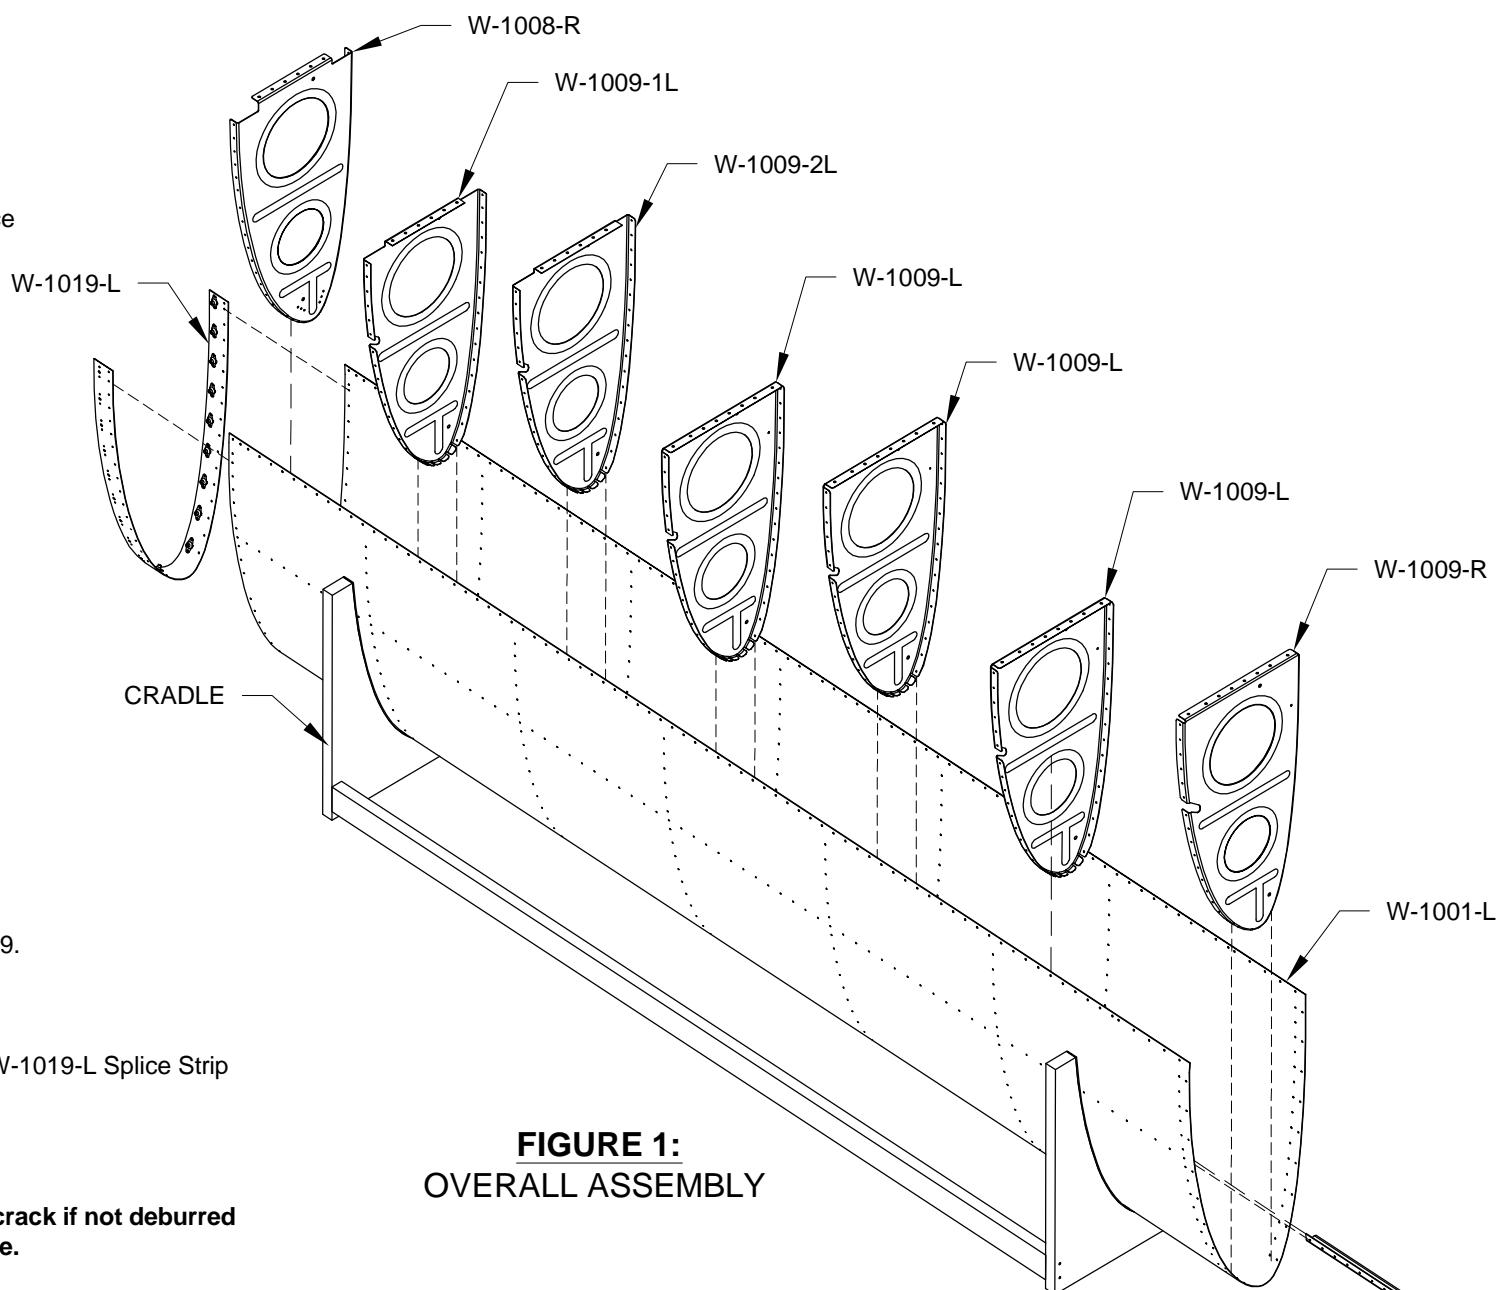

FIGURE 1:
Step 12: Rivet (fill) the two stall warning slot guide holes in the W-1001-R Leading Edge Skin with AN426AD3-3 rivets. See Page 17-4, Figure 1.
Step 14: Rivet the assembly together per the rivet call-outs given on Page 17-4, Figure 1. Start by riveting the aft most two holes in the leading edge ribs and splice rib, top and bottom, then rivet all parts together progressively working towards the leading edge.